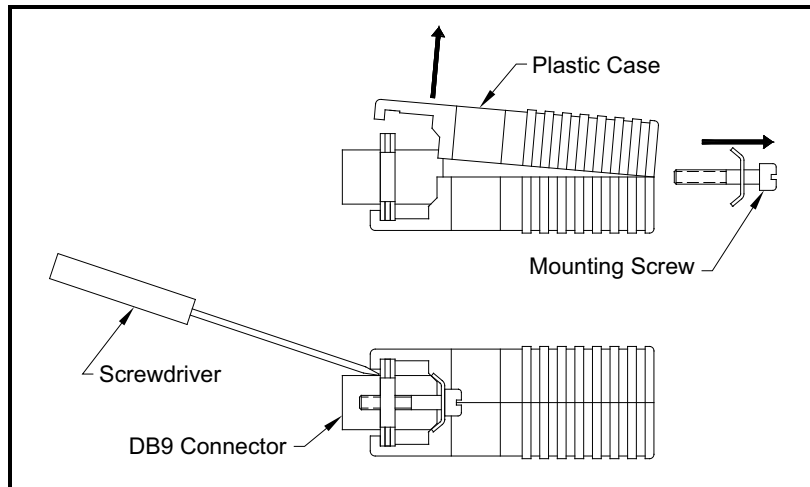

Figure 10: Opening the Converter Case
5. Use a small screwdriver to pry open the *plastic case* of the serial interface converter, as shown in Figure 10 on page 74.